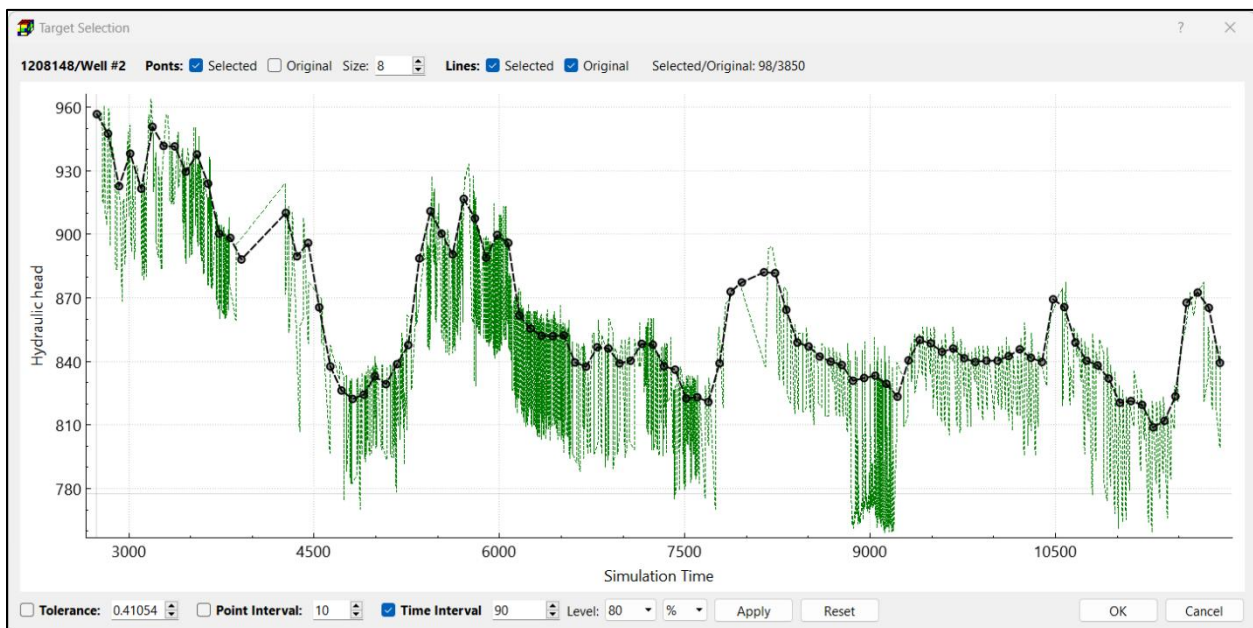

Figure 40. The Target Selection tool
- **Select Target:** Select this option to open the Target Selection tool (Figure 40) that can be used to select a subset of observation data as calibration targets for model calibration and time series/scatter charts. The features of the Target Selection tool are given below.
- **The Target Selection Tool** (Figure 40) can be used to select a subset of observation data. The features of this tool are as follows.